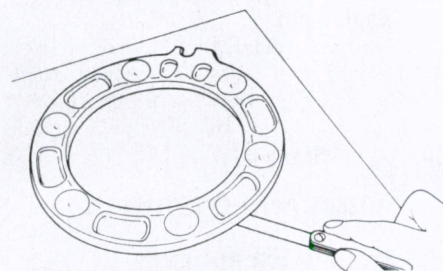

Fig. 143—Check flatness of brake cam plate using a feeler gage and surface plate.
operation. If cam (4) binds, remove and clean. Be sure to renew "O" ring (5). Check cam plate flatness (Fig. 143) using a surface plate and feeler gage. If a 0.3 mm (0.012 inch) feeler gage can be inserted between surface plate and machined surface of cam plate, renew cam plate. Measure thickness of cam plate with a ball installed as shown in Fig. 144. If thickness is less than 20.6 mm (0.811 inch), renew cam plate. Minimum allowable thickness of brake disc is 4.2 mm (0.165 inch). Minimum allowable brake plate thickness is 2.1 mm (0.083 inch).